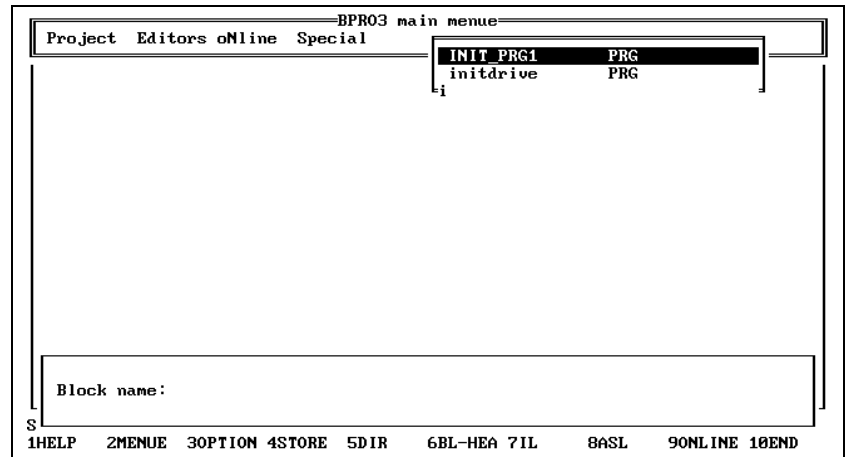

Fig. 3-6 Limited list
Figure 3-6 illustrates a list which is limited to those options beginning with the letter "I":
1. Press the  key (the result is shown in fig. 3-6).